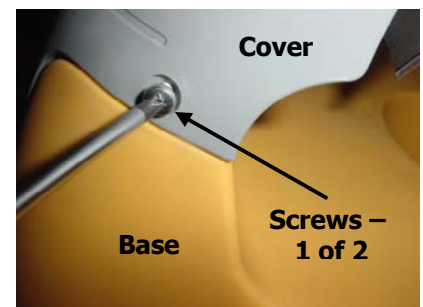

Figure 1.22 –
- Insert the two screws provided on both sides of the top section of the cover. Lightly tighten with a Phillips screwdriver. See figure 1.22.